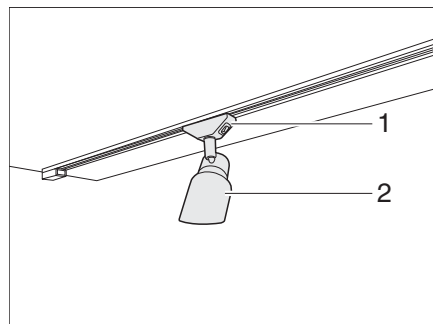

Fig. 43 LED spotlight
- Grasp the holder (Fig. 43,1) and turn it by 45°.
- Remove the LED spotlight (Fig. 43,2) from the rail system.
- Insert the LED spotlight (Fig. 43,2) at the desired position into the rail system and turn by 45°.
- Turn by 45° at the holder (Fig. 43,1).